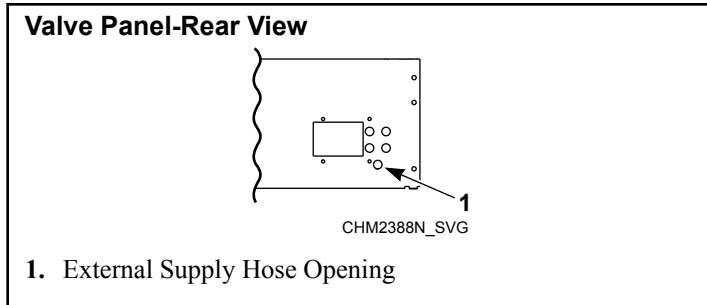

Figure 39
1. Facing the rear of the machine, locate the five (5) 3/8 inch [10 mm] supply hose connections found on the right-hand side of the valve panel. Refer to *Figure 39*.